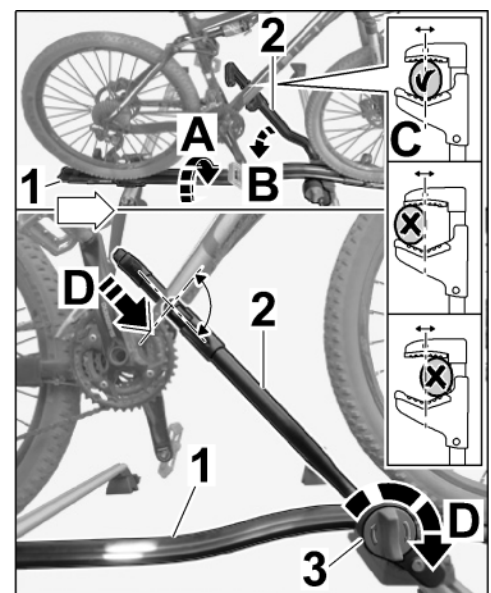

Figure 14
5.2.1 Carefully place the bicycle on the bicycle rack with the help of another person (⇒ Figure 14 -A-) and hold it securely.
- 5.2.2 Position frame holder (claw) on the down tube of the bicycle frame at the center (⇒ *Figure 14 -C-*) and close to the chain wheel (⇒ *Figure 14 -B-*).
- 5.2.3 Turn rotary knob to the right until the frame holder (claw) secures the down tube (⇒ *Figure 14 -D-*).